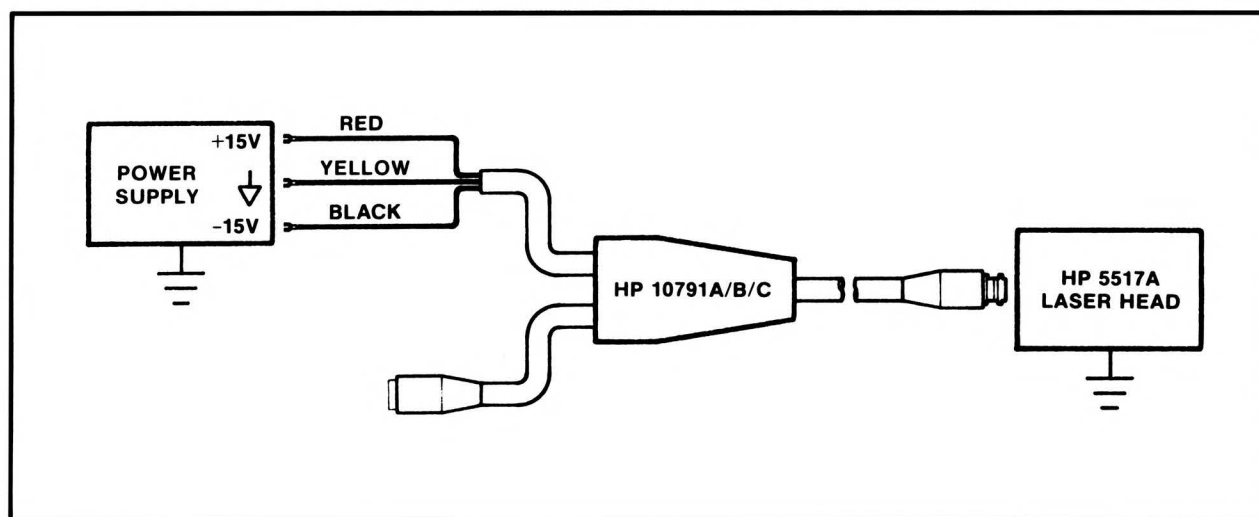

Figure 4-1. 5517A Power Connections
- a. Connect the 5517A to the 5501A system using Interconnect Cable 10791A/B/C as shown in *Figure 4-1*.